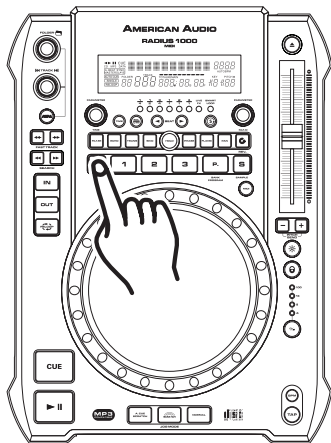

Figure 15
- 1) Create a Cue Point by one of the two means listed on page 20. Press the **MEMORY BUTTON (27)**, as in Figure 15. The red Memory Cue LED will glow indicating the store memory function has been activated. You may now press any one of the three **BANK BUTTONS (26)** to store your cue point into memory (Figure 17). After pressing one of the **BANK BUTTONS (26)**, the corresponding Bank Button LED will flash briefly. The LED on the the **BANK BUTTON (26)** will remain lit indicating either a sample or cue point is stored in memory. The red Memory LED will turn off.